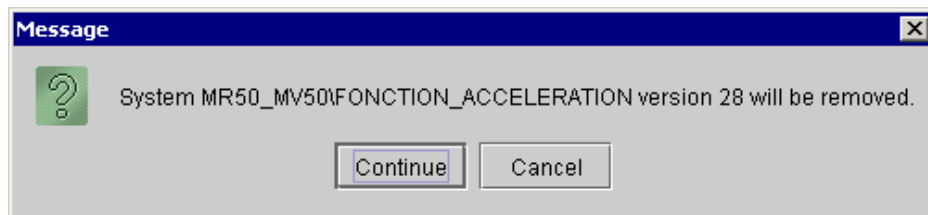

Figure 133 : System removal message
- Select the command **Remove...** → **System**, a *Message* window is displayed indicating that the selected version system is going to be removed (Figure 133).